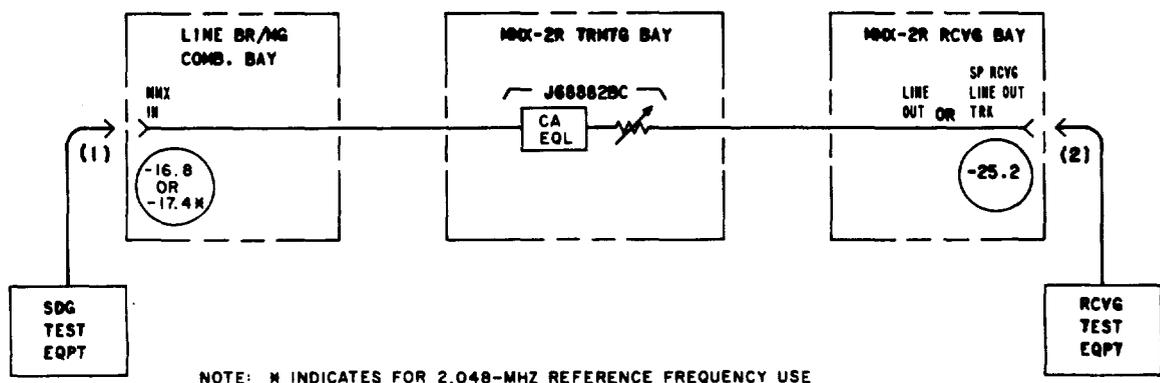

Fig. 6—♦Receiving Regular or Spare Radio Trunk for Mastergroup Branching♦
2	Prepare the STE to produce a 600-kHz signal at $-16.8$ dBm. Note: ♦Use a test signal at $-17.4$ dBm (Fig. 6) if the 2.048-MHz reference frequency is received on the trunk under test.♦
4	Connect the sending test equipment to the MMX IN jack in the line branching/mastergroup combining bay [patch (1), Fig. 6].
5	Connect the RTE to the LINE OUT or SP RCVG LINE OUT TRK jack in the MMX-2R receiving bay [patch (2), Fig. 6].